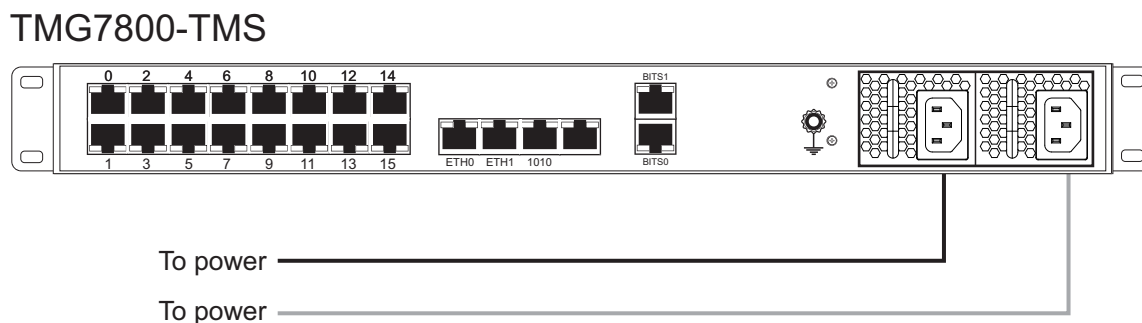

Figure 5.3 7800-TMS AC Power Connections
1. Connect an AC power cable between the AC connector of the 7800-TMS and an AC supply. See figure 5.3 on page 47.